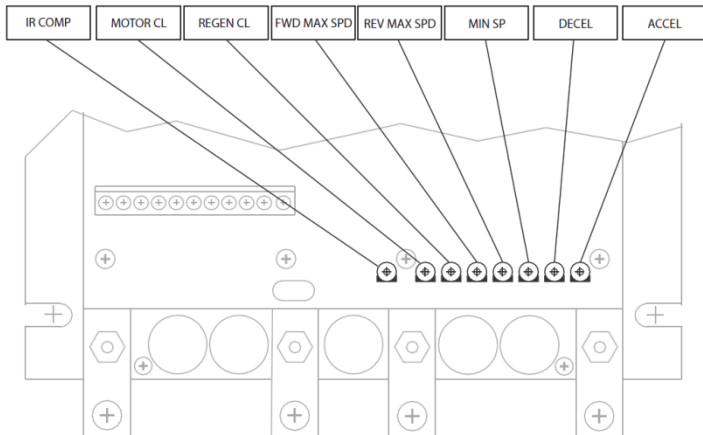

Figure 11. Calibration Trimpot Layout
Each drive is factory calibrated to its maximum armature voltage. The MMP 100A 20-62V is factory calibrated at 170A. Readjust the calibration trim-pot settings to accommodate a motor with a lower armature voltage and current rating. All adjustments increase with clockwise rotation (CW), and decrease with counter-clockwise rotation (CCW). Use a nonmetallic screwdriver for calibration. Each trim-pot is identified on the printed circuit board (see Figure 11 below).